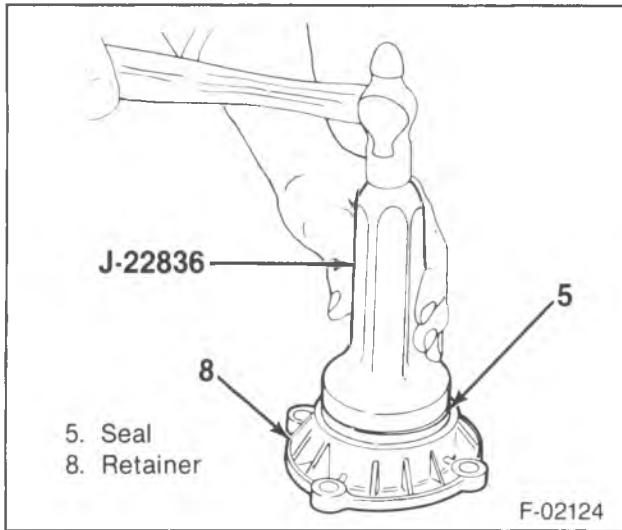

Figure 15—Front Output Bearing Retainer Seal Installation
2. Spacer (42).
3. Roller bearings — 32 per row (41) in the front low gear (43).
4. Front low gear (43) on the front output shaft (40).
5. Thrust washer pin (45) in the shaft (40).
6. Thrust washer (44) on the shaft (40).
7. New snap ring (46), using tool J 23432.
8. Front output shaft front bearing (9) into the case (19).
9. Front output shaft front bearing retainer seal (5), using J 22836 (figure 15).
10. Front output shaft front bearing retainer (8).
11. Retainer bolts (6).